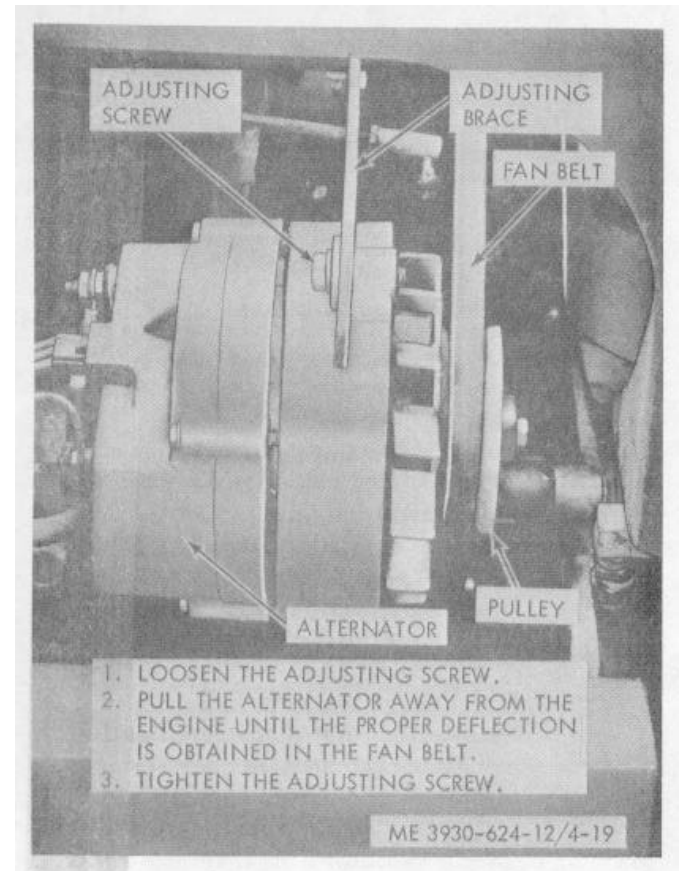

Figure 4-19. Fan belt adjustment.
(6) Loosen the alternator adjusting screws and move the alternator towards the cylinder block, freeing the fan belt (fig. 4-19).
a. *Adjustment.* The fan belt must be tightened so that it can be deflected  $\frac{1}{2}$ " at a point midway between the water pump and the alternator. If necessary, adjust the belt as shown in figure 4-19.